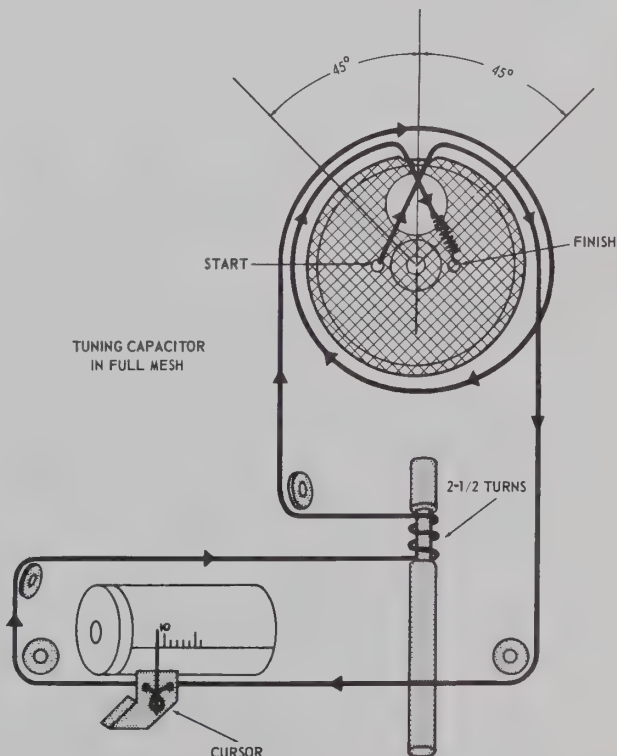

Fig. 5-6. Dial Stringing
5-34. DIAL STRINGING PROCEDURE (Fig. 5-6).
b. Loop the cord once around pin on cursor and thread balance of cord through left side hole in cursor. (See Fig. 5-6.)